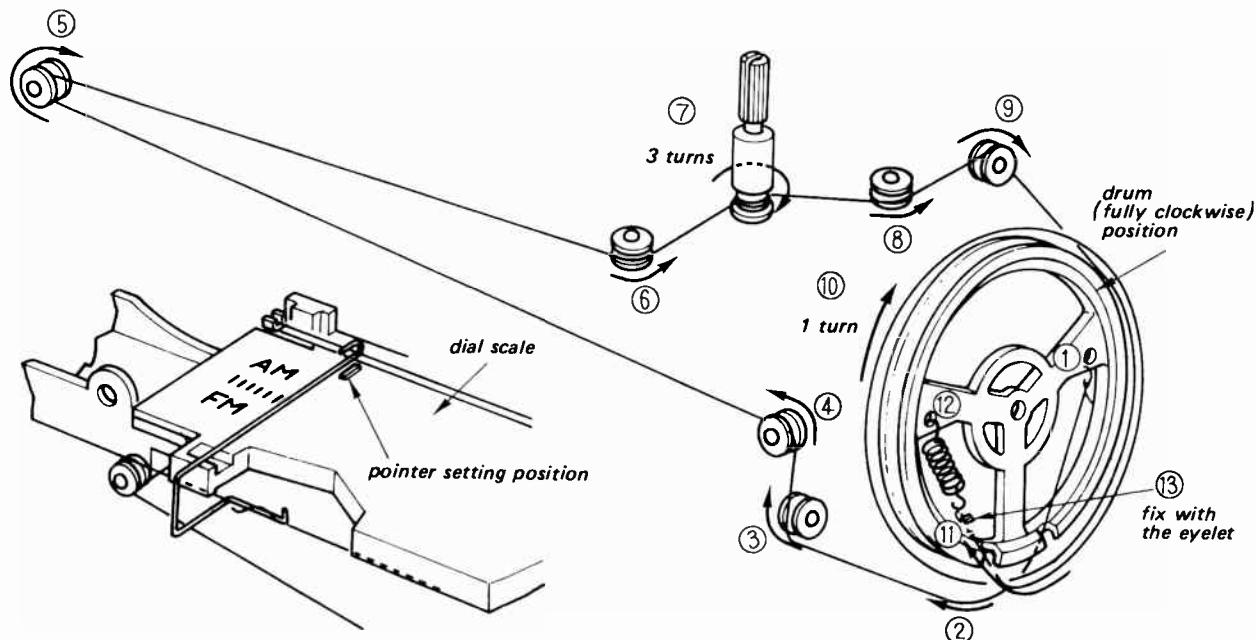

Fig. 2-8
3. Set the dial cord in numerical order as shown in Fig. 2-8.